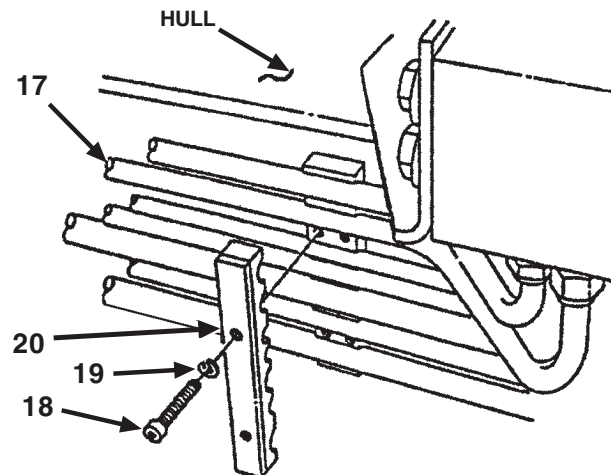

Figure 58. Manifold Tubes.
Step 19 applies to Figure 58.
19. From hull access opening, secure seven tubes (item 17) to hull with retaining strap (item 20), two new lockwashers (item 19), and screws (item 18).